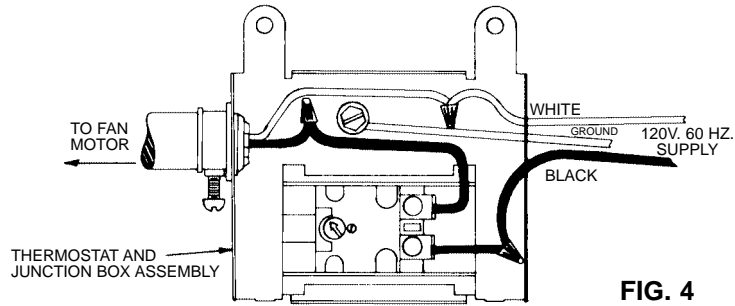

FIG. 4
8. Wiring of the unit is done inside the attic. The outlet box can be screwed or nailed to a rafter by mounting bracket provided. If nailed, remove thermostat from box before nailing to avoid damage. Connections to existing circuit must conform to local electrical code regulation. See Fig. 4.